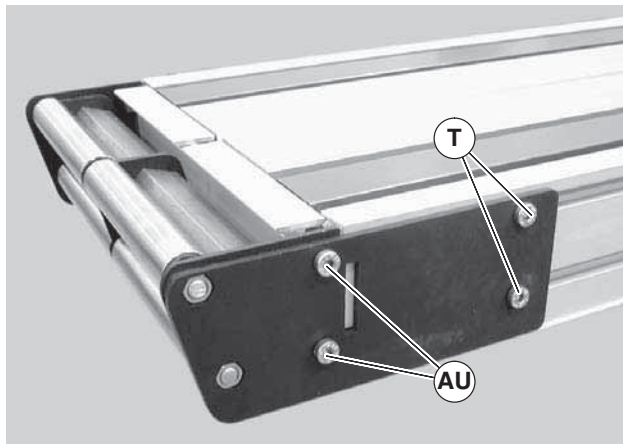

Figure 55
2. On one side of conveyor, remove the two (2) back fastening screws (Figure 55, item T), and the two (2) front fastening screws (AU)